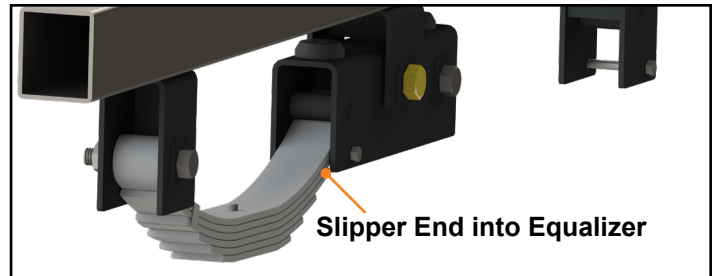
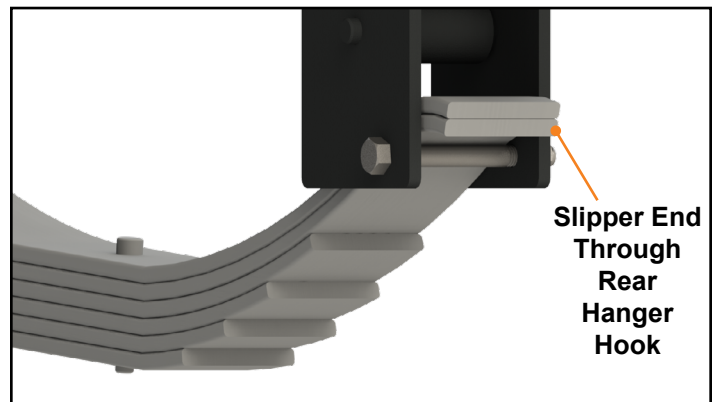

Fig.20
Fig.21
14. Slide the slipper end of the springs onto the front of the equalizers (Fig. 20) and through the hooks on the rear hangers (Fig. 21).